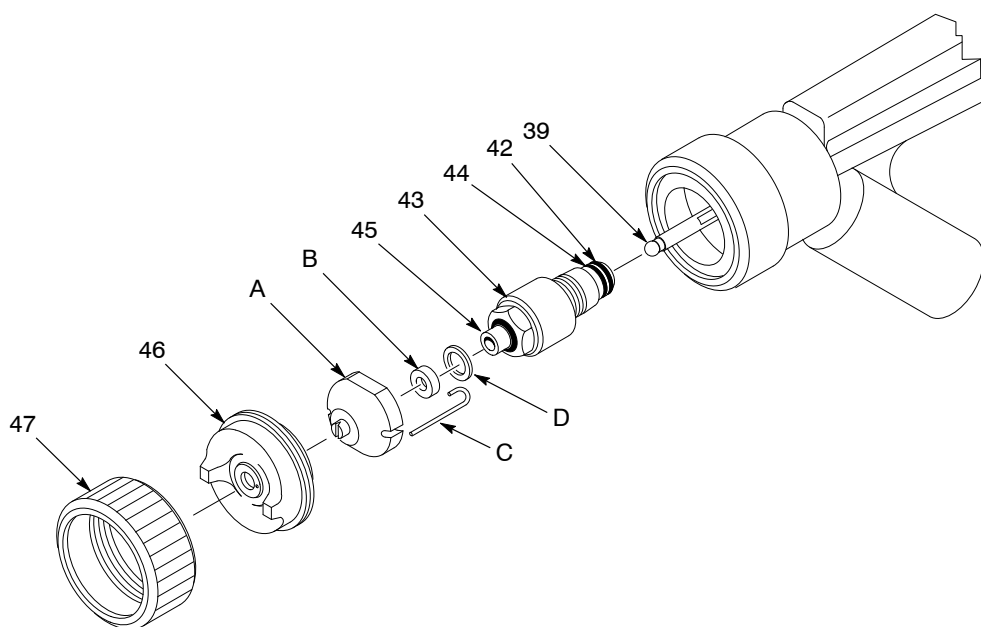

Figure 7-2 Replacing the Nozzle, Restrictor, and Fluid Tip
5. See Figure 7-2. Unscrew the retaining ring (47) and airless cap (46) assembly from the extension.
6. Remove the nozzle (A); PTFE retaining washer (D); electrode (C); and gasket (B) or gasket with restrictor, if used. Do not lose the gasket. Clean the nozzle and restrictor as described on page 5-2.
7. Activate the spray gun to retract the ball tip (39). Place the hex on the combination tool over the hex on the fluid tip (43) and unscrew it from the extension.
8. Make sure the O-ring (42) and conductive back-up ring (44) are installed on the new fluid tip, with the O-ring toward the rear of the fluid tip. Lubricate the O-ring with dielectric grease.